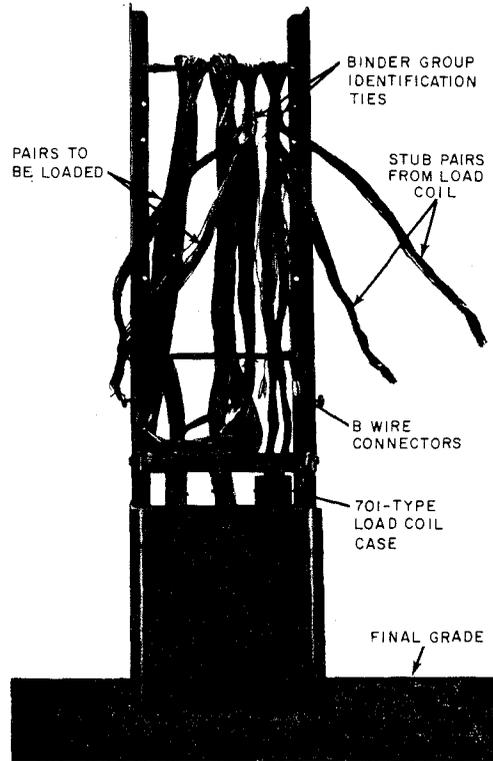

Fig. 29—Load Coil Case Placed
10.01 Figure 29 illustrates a 701-type load coil case placed in an LD-type cable closure. A maximum of two 701-type load coil cases can be placed in the LD6/42 Cable Closure and a maximum of four 701-type load coil cases can be placed in the LD10/42 Cable Closure.